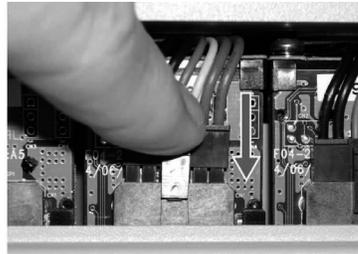

FIGURE 5: BATTERY CONNECTOR ACCESS PANEL
4. Rotate the battery connector access panel down by gripping the tab on either side as shown in Figure 5.